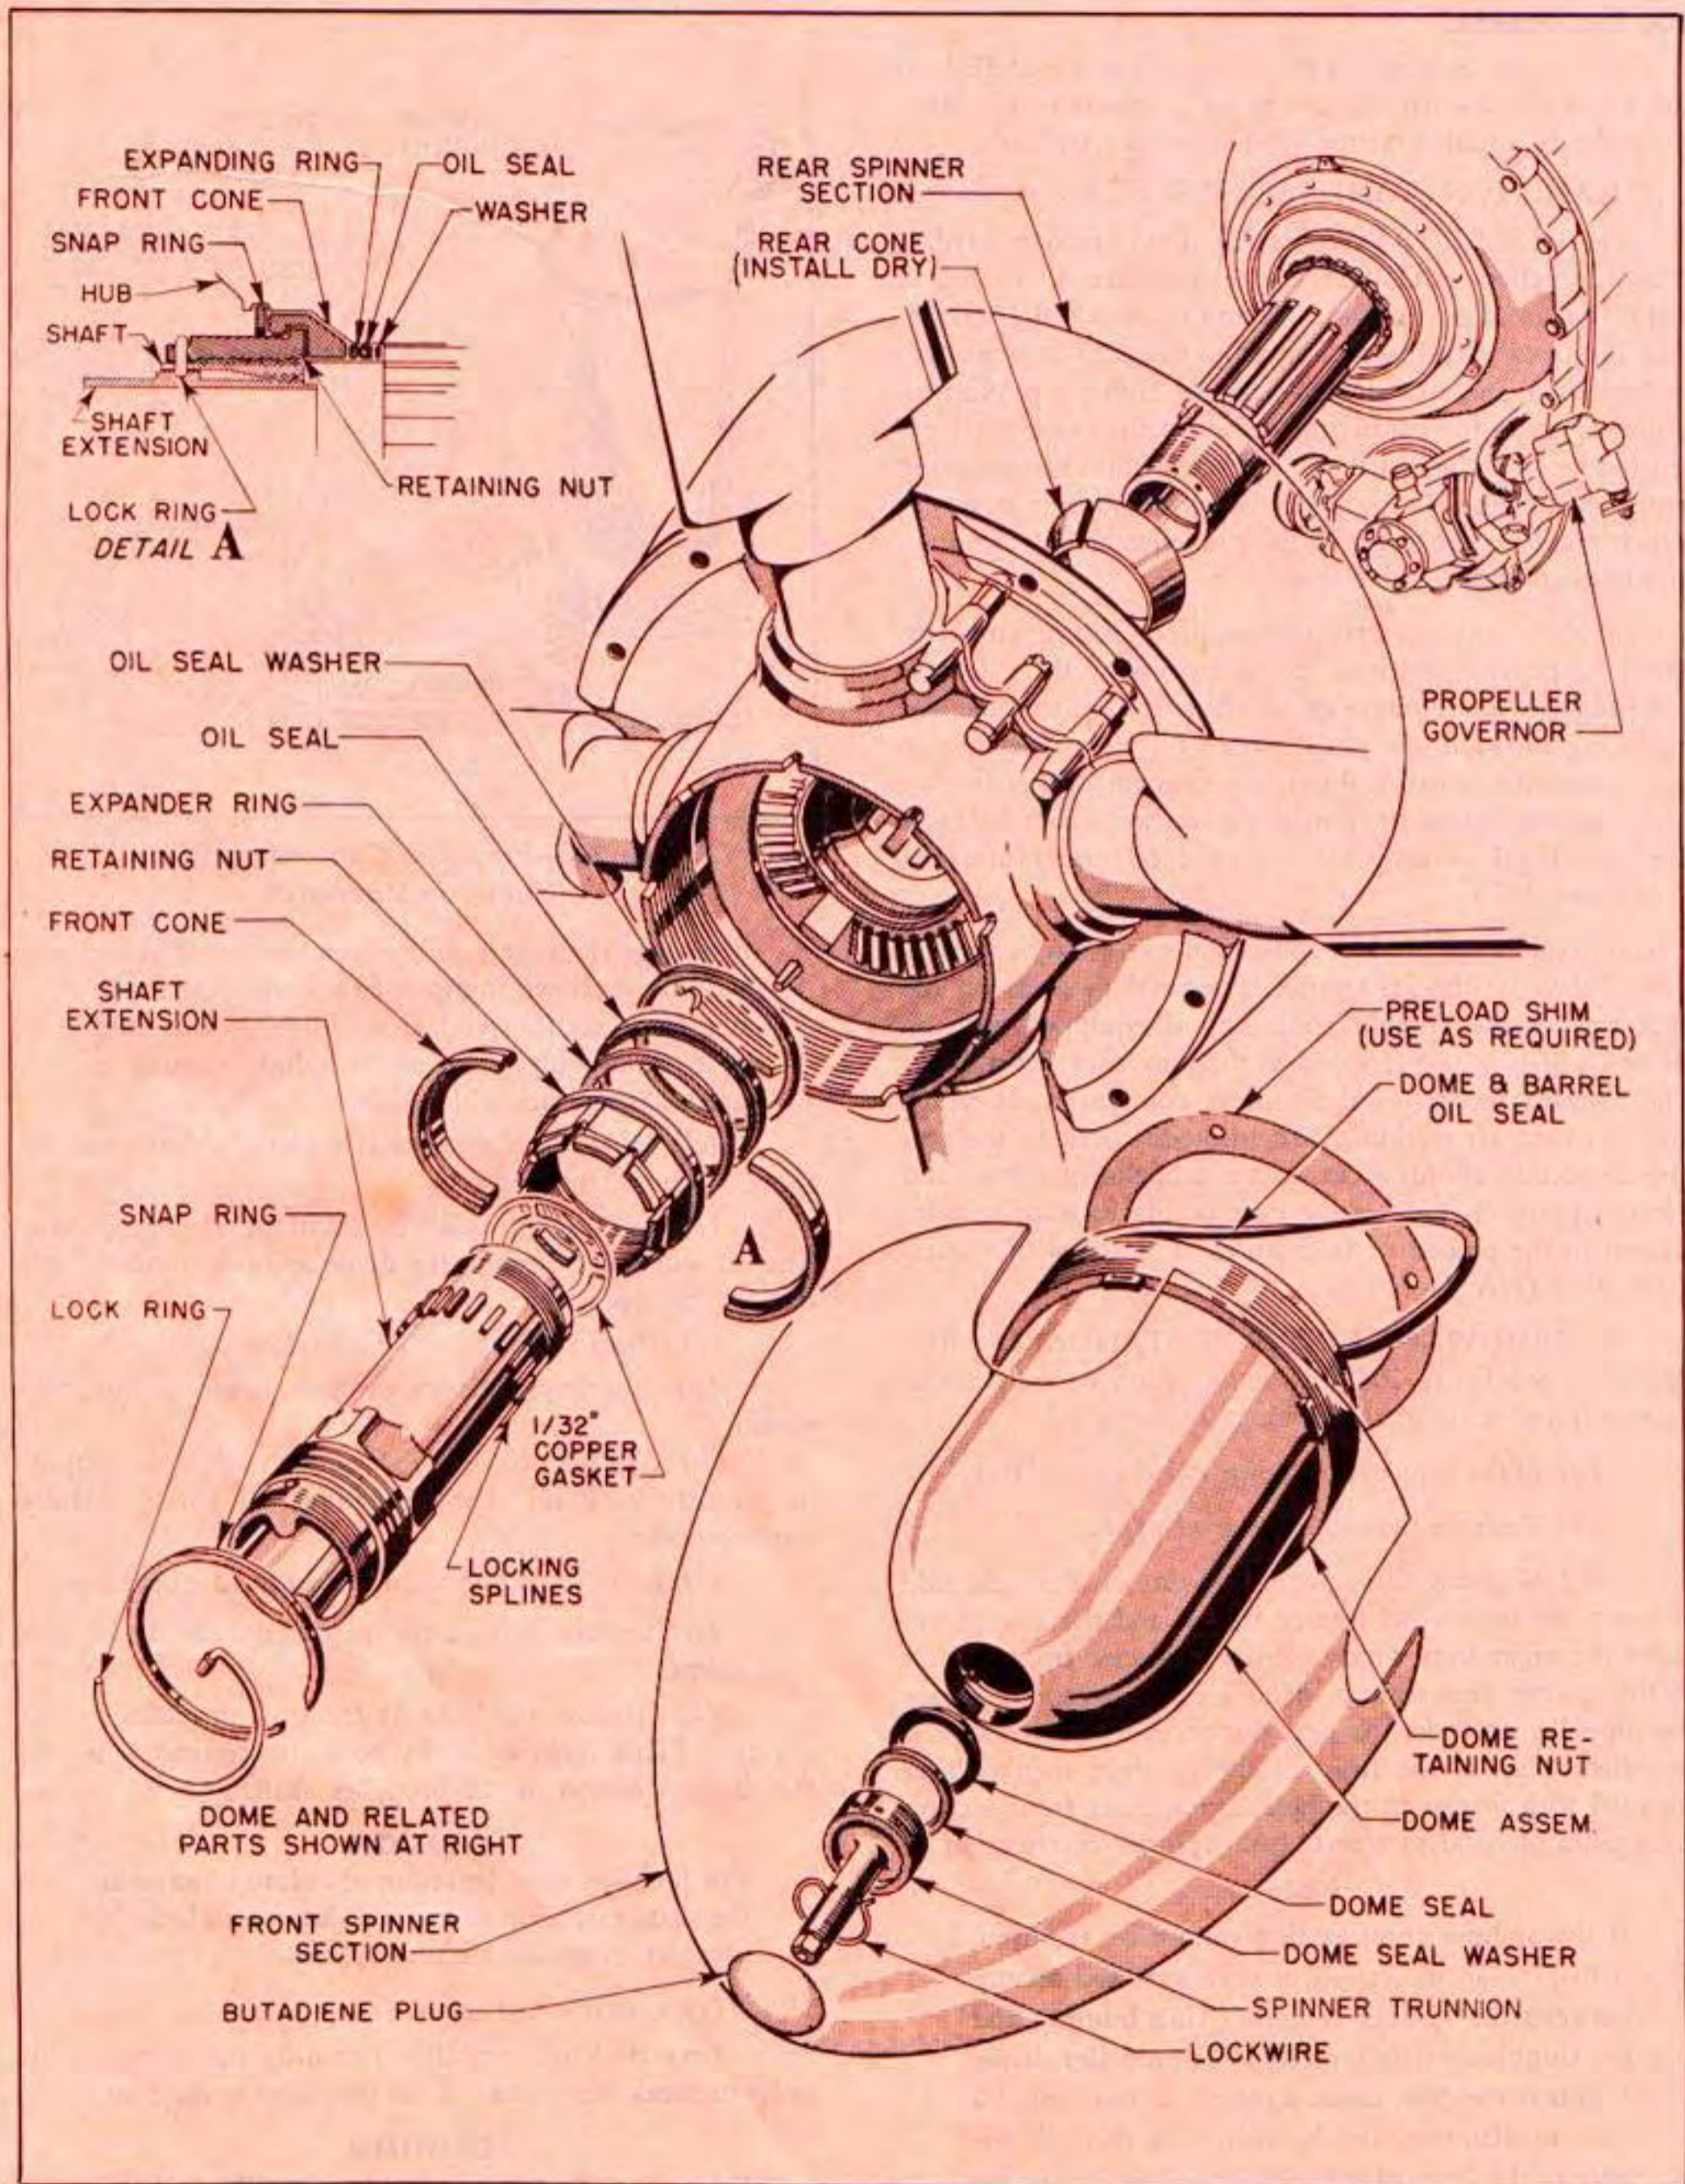

Figure 204—Propeller Installation (Hamilton Standard)
(2) REMOVING HAMILTON STANDARD PROPELLER.—See figure 204 for identification of the various units referred to in the following instructions: